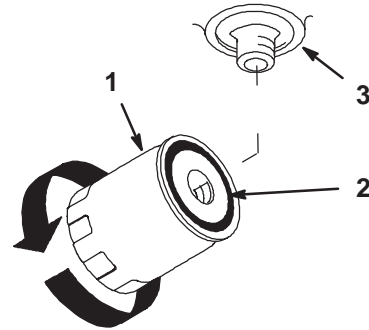

Figure 52
4. Apply a thin coat hydro fluid to the rubber gasket on the replacement filter (Fig. 52).
6. Fill the hydraulic tank with hydraulic fluid until the fluid overflows the filter and then turn the oil filter clockwise until the rubber gasket contacts the filter adapter, then tighten the filter an additional 1/2 turn (Fig. 52).